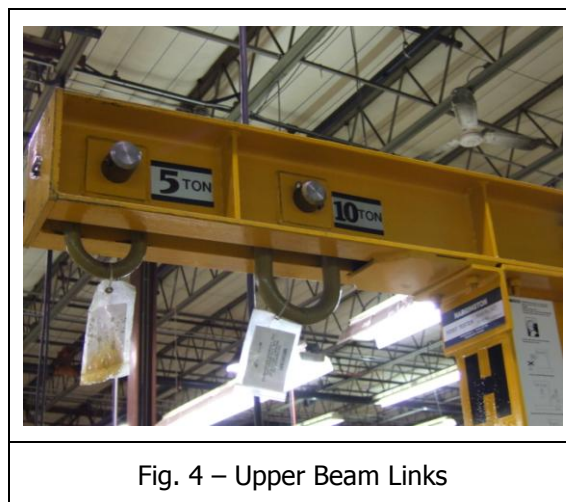

Fig. 4 – Upper Beam Links
- 2.1.2.2. Suspend the hoist from the appropriate link on the Upper Beam: Hoist capacity 5 Tons or less use the link labeled 5 Ton; hoist capacity greater than 5 Tons, but not more than 10 Tons use the link labeled 10 Ton (See Fig. 4).